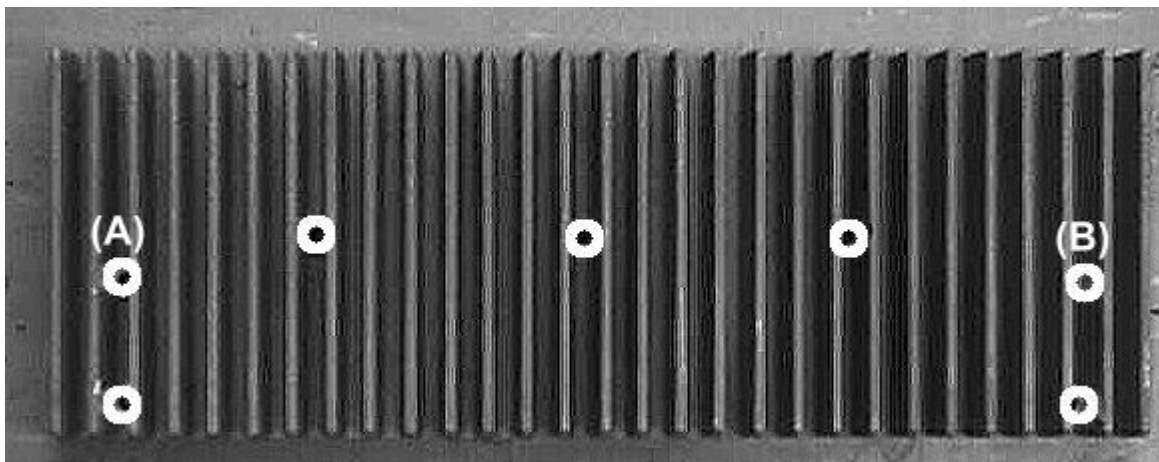

Figure 7.15: Heat Sink Screws for VHF PA Removal
3. Remove the seven cap screws holding the heat sink casting to the main casting as per Figure 7.15.
7. Refit the seven cap screws holding the heat sink casting into the main casting. (Refer to Figure 7.15)